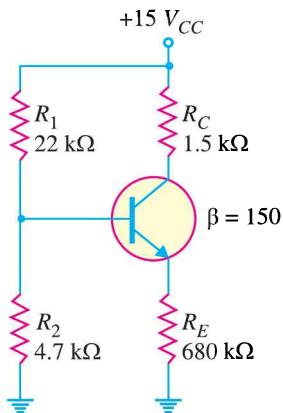

Fig. 9.56
15. What is the minimum value of β in Fig. 9.56 that makes $R_{in\ (base)} \geq 10 R_2$? [69.1]